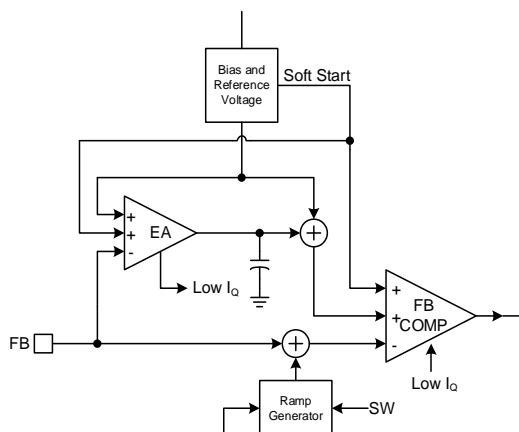

Figure 2: Operation Blocks in Sleep Mode
The MP2153D employs sleep mode for high efficiency at extremely light loads. In sleep mode, most of the circuit blocks are turned off to reduce the input current to a minimum value (see Figure 2). The error amplifier (EA) and the PWM comparator remain on during sleep mode.